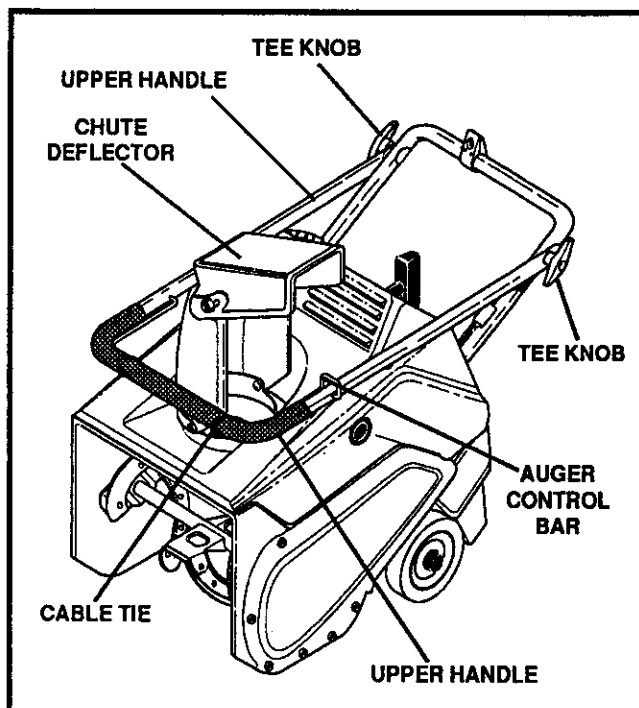

FIG. 2-ASSY
- Loosen the tee knob on each side of the upper handle (See FIG. 2-ASSY).
- Discard the ties that secure the auger control bar to the upper handle (See FIG. 2-ASSY).